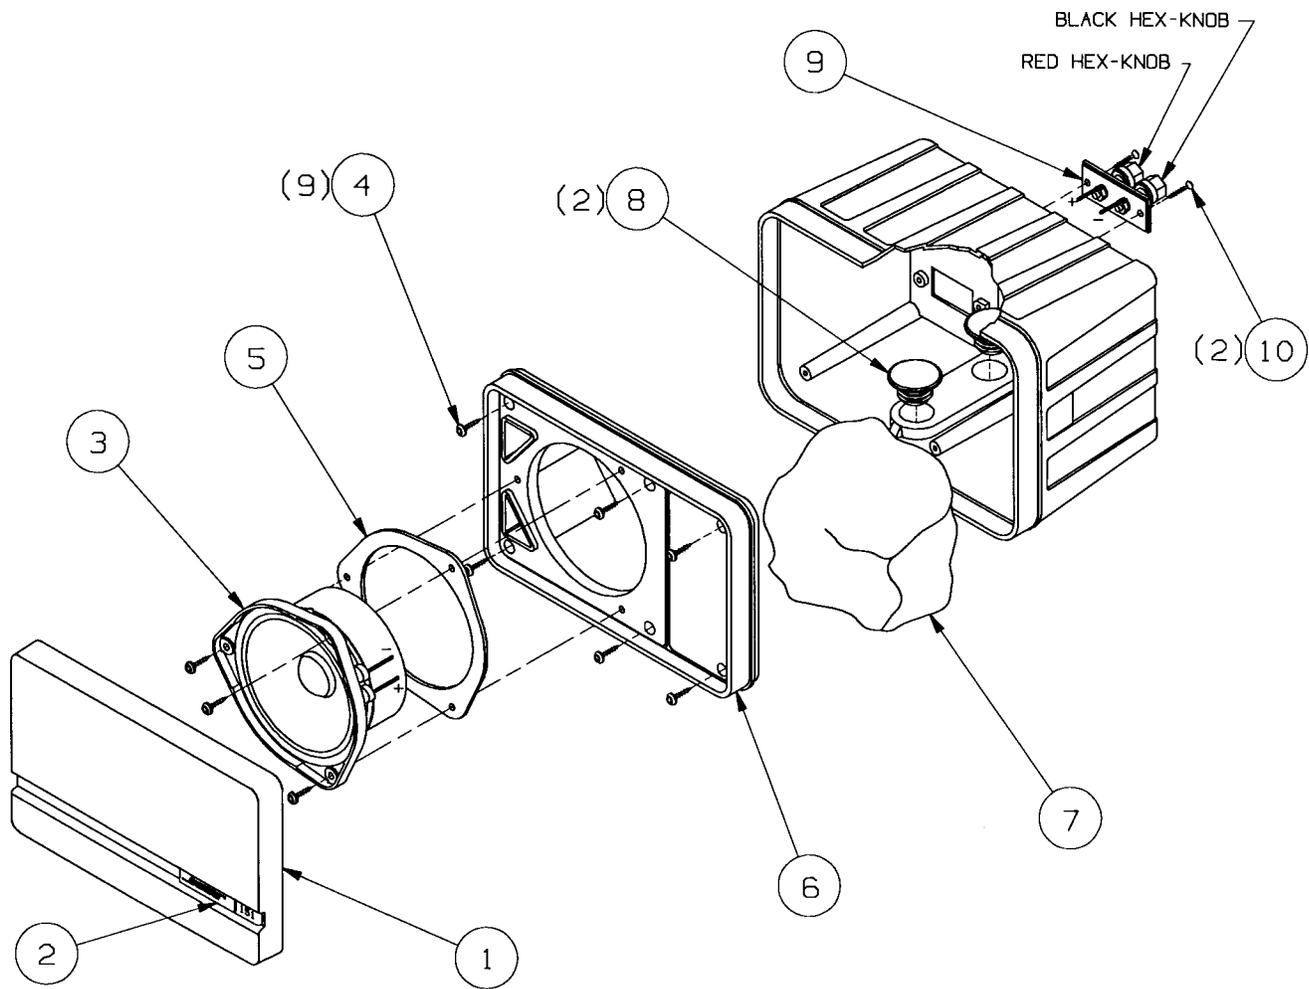

Figure 2. Speaker Assembly Exploded View
NOTE: Refer to **Figure 2** for an exploded view of the speaker assembly. Certain parts will be referred to in these procedures. The item number which corresponds to the part will be enclosed in parentheses-i.e.-grille **(1)**.
A. To install the grille **(1)**, make sure that it is oriented as shown in **Figure 2**.
A. Strip the wires and connect to the replacement driver **(3)**. Make sure that the **red** wire is connected to the **positive (+)** terminal and the **black** wire is connected to the **negative (-)** terminal of the driver. Make sure that the driver terminals are centered in the speaker enclosure. The correct orientation is shown in **Figure 2**.
151™ Speaker Assembly Parts List (Figure 2)